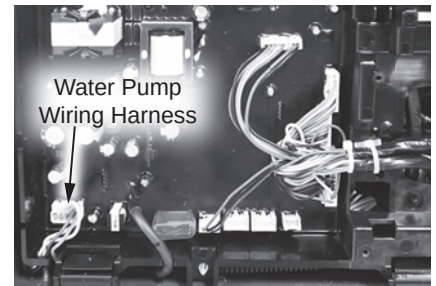

Figure 173 - Water pump wiring harness location
- 14 Locate the water pump wiring harness on the control board panel as shown in Figure 173. Disconnect and route the wiring out of the way for ease of removing the water pump.
- 30** Place the water pump into the water heater cabinet, routing the wiring harness cable behind the condensate collector and under the control board panel as shown in Figure 173. Use caution not
35 Lift the control board panel up and reconnect the water pump wiring harness previously disconnected in **Step 14**. Slide the wiring through the slot in the circuit board panel as shown in Figure 173. Lower control board panel.